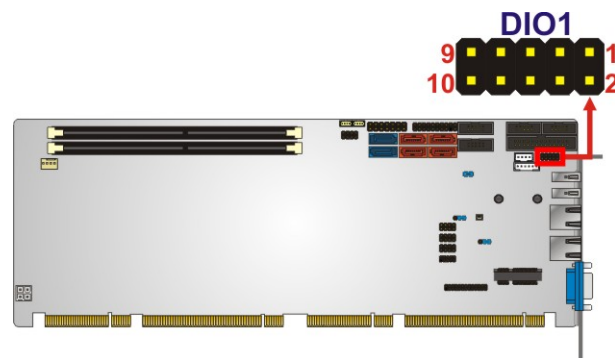

Figure 3-6: Digital I/O Connector Location
- CN Location:** See Figure 3-6